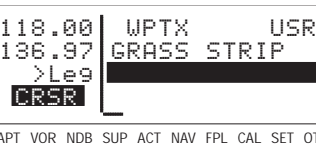

Figure 3-157
4. Press **ENT** to approve each line of remarks. The cursor will automatically move to the next line (see figure 3-157).